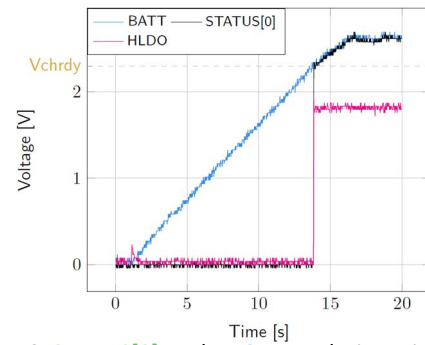

Figure 3: **STATUS[0]** and **HVOUT** evolution with **BATT**
- **BATT**: Voltage rises as the power provided by the source is transferred to the storage element (see Figure 3).
- **HVOUT/LVOUT**: Regulated when voltage on **BATT** first rises above  $V_{CHRDY}$  (see Figure 3).
- **STATUS[0]**: Asserted when the LDOs are ready to be enabled (refer to the AEM10941 datasheet “Normal Mode” section) (see Figure 3).